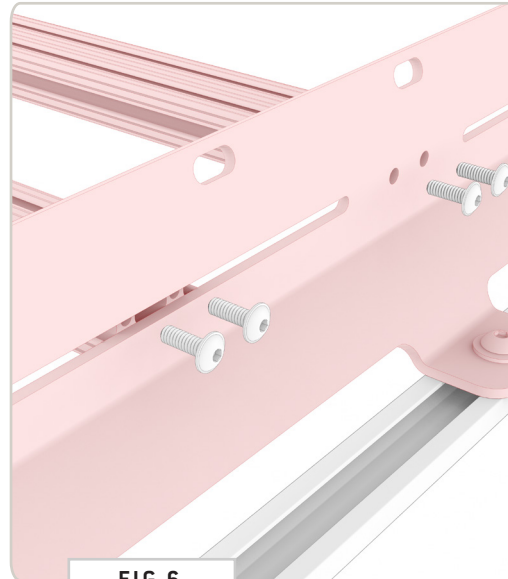

FIG 6
2.1 Install to Crossbars and Roof Rail: Now you can start affixing the **Brackets** to the **Roof Rail** and **Crossbars**. Tighten the bolts to the **Crossbars** first (**FIG 6**), and then tighten down to the **Roof Rail** (**FIG 7**).